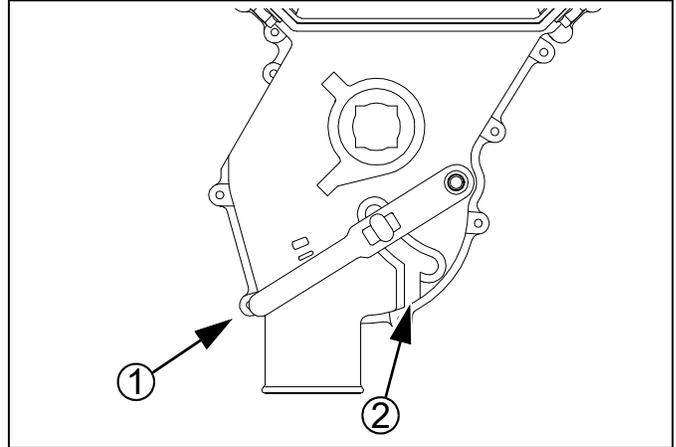

Figure 18
Refer to Figure 18, which depicts the seed cup door handle ① in a normal operating position.
1. Set the Seed Rate Handle to zero (0). This moves the seed cup sprockets out of the seed path.
3. At the seed cup for that row, pull the door handle ① out of the operating detent range, and swing it down to position ②.